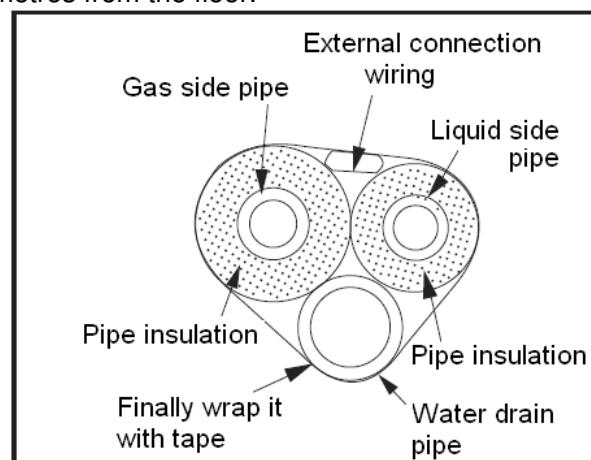

Fig. 13
2. Once the refrigerating pipes and the cables are isolated (as shown in fig. 13), insert them in the wall hole.